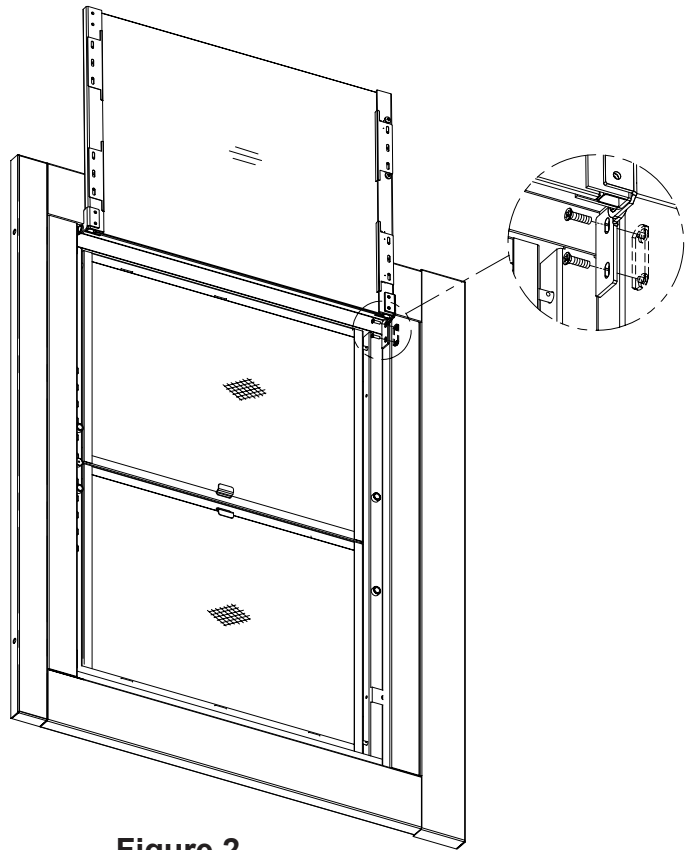
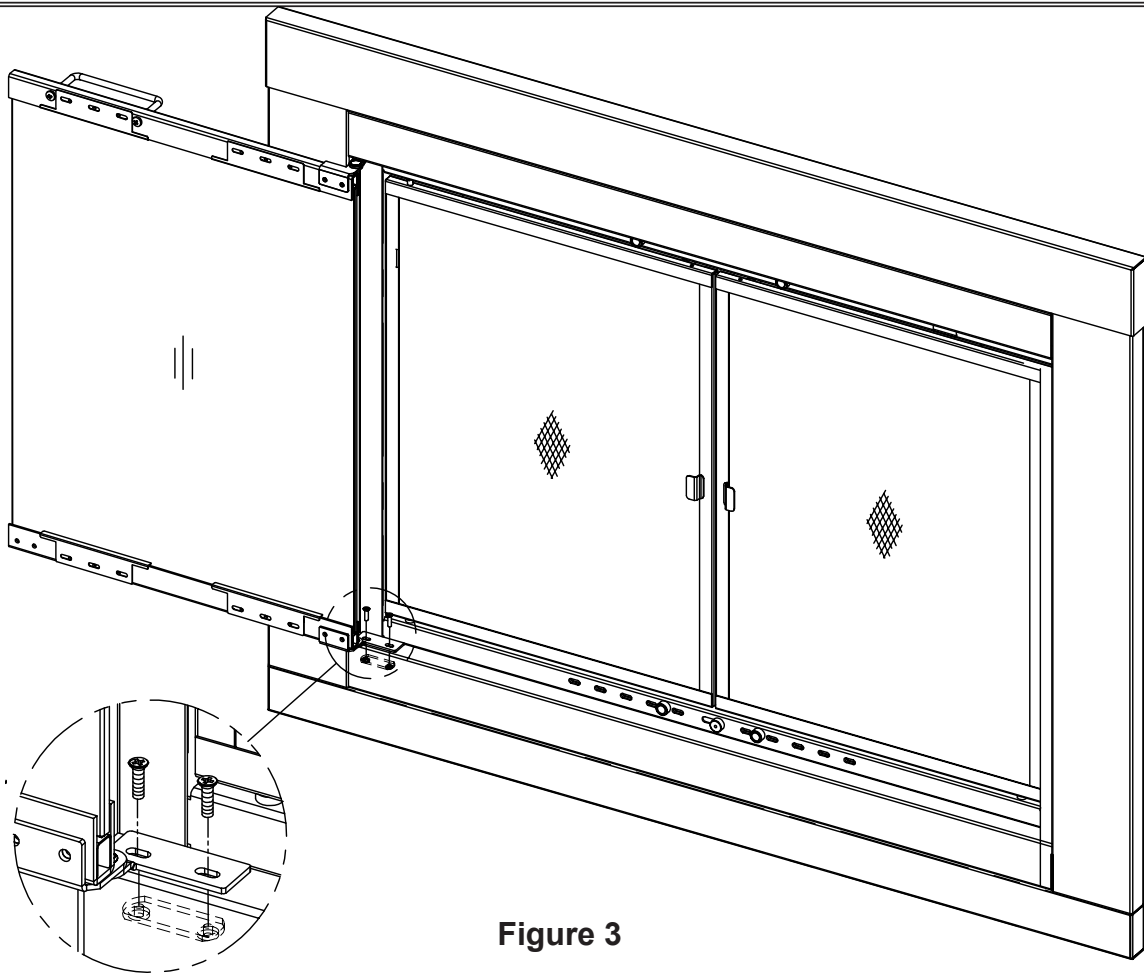

Figure 2
Figure 3
2. Install the glass door panels using the provided phillips screws and nut plates. install the top and bottom of each panel, before proceeding to the next panel (see Figure 2 and Figure 3).